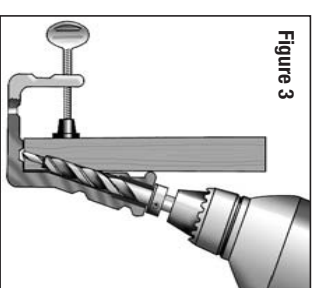

Figure 3
3. Drill the pocket hole(s) until the stop collar hits the base. For cleaner cut holes and easier drilling, do not drill the entire depth with one stroke. Instead, use short strokes until the drill has reached its final depth (see Figure 3). When finished, unclamp the work piece and remove from the jig.